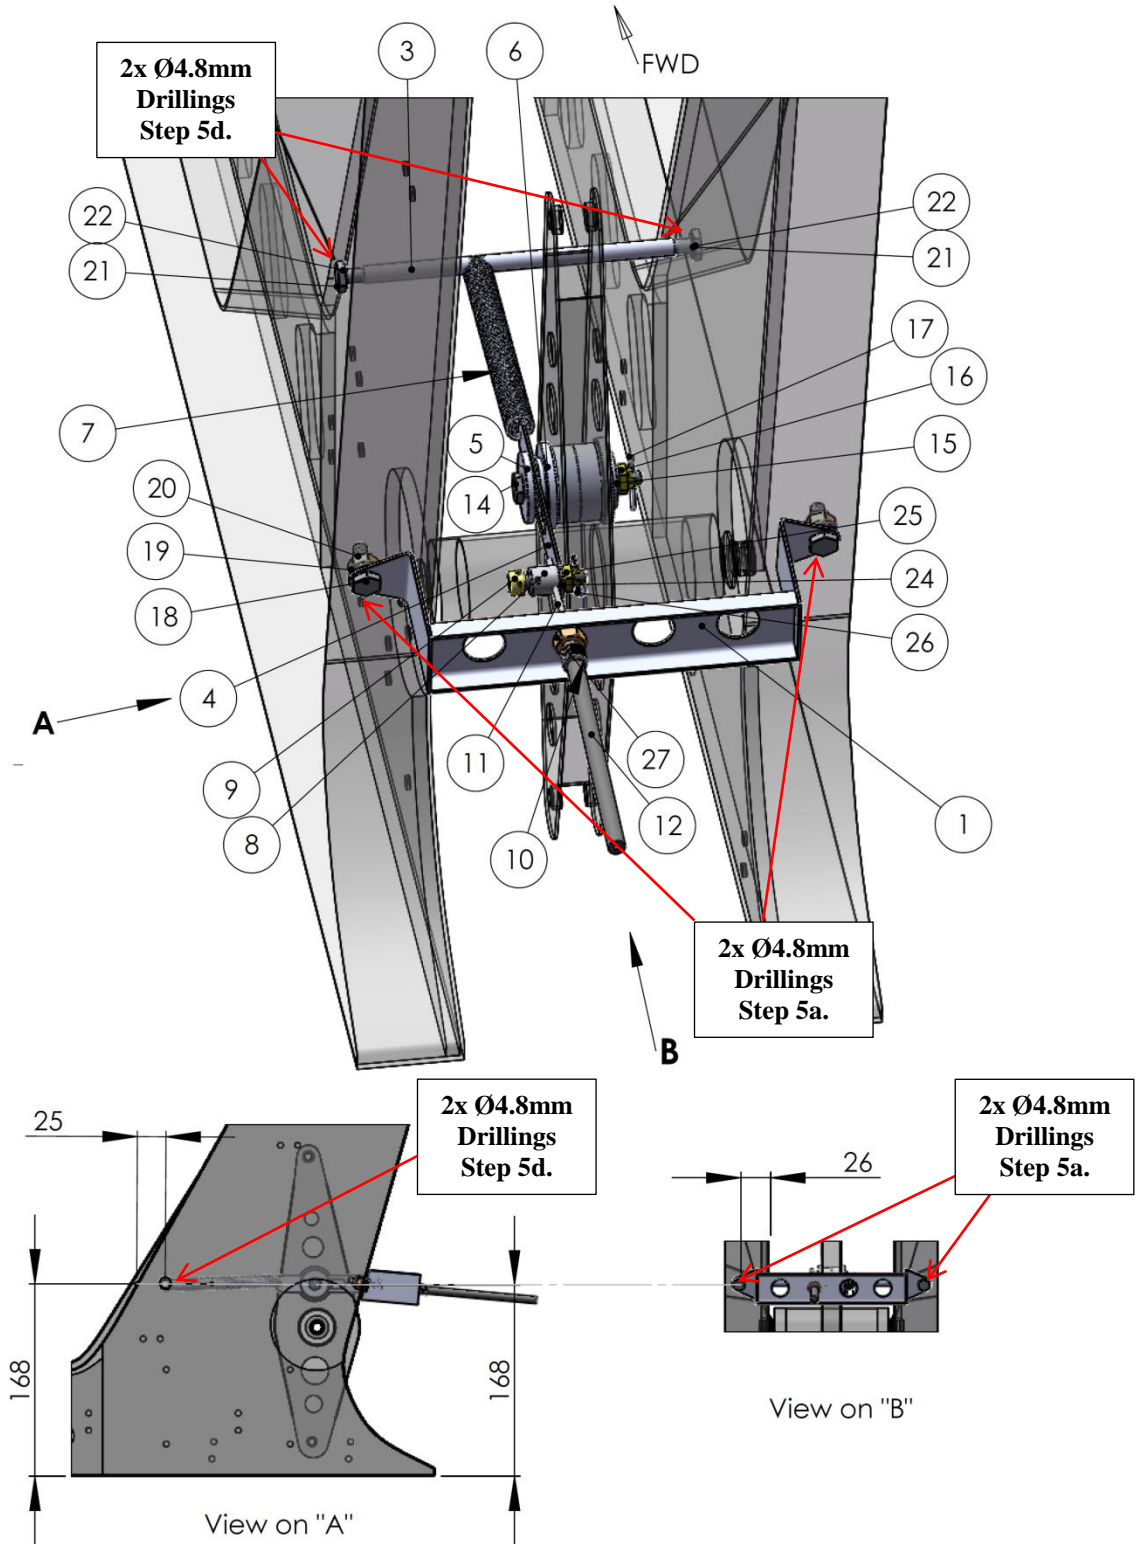

Figure 4: TWL control assembly installation 1/2
- a. Position TWL Cable Bracket XA 42-3261-100 at seat spar as shown on Figure 4. Drill 2 holes, diameter 4,8mm, and attach the bracket with 2 ea. Bolt AN3-3A, Washer AN960-10 and Lock Nut MS21044N3.
- c. Install TWL Slider Bushing XA42-3261-205 and TWL Slotted Link XA42-3261-204 from the left hand side to the TWL Idler Bushings using Bolt AN3-15, Washer AN 960-10, castle nut AN310-03, and Cotter Pin, see Figure 4 and 5.
- d. Drill 4,8 mm diameter holes through the L/H and R/H seat spars as shown on Figure 4.